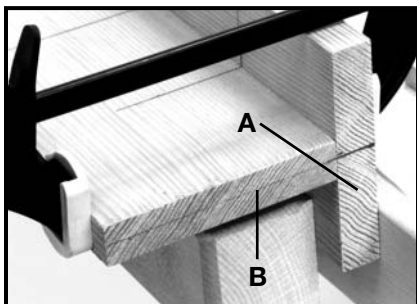

Fig. 23
3. Mark centerline of joint on workpiece "A" (see Fig. 23).
11. Follow steps 3 through 10 of **CORNER JOINTS** Section to complete required grooves in workpiece "B" Fig. 23.